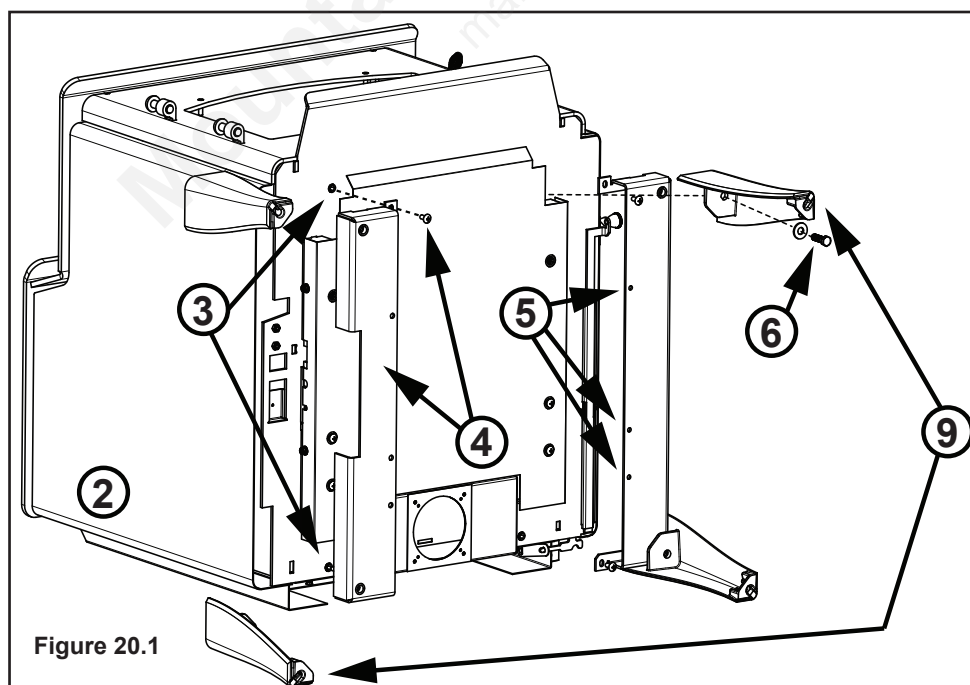

Figure 20.1
3. Remove four screws from bottom of appliance (**Figure 20.1**).
NOTE: There is a right and a left of the leg brackets (**Figure 20.1**).
5. Install six screws to the bottom of the leg brackets (**Figure 20.1**).
Note: Legs with leveling bolts need to be on opposite sides of the appliance - one in the front and one in the back (**Figure 20.1**)